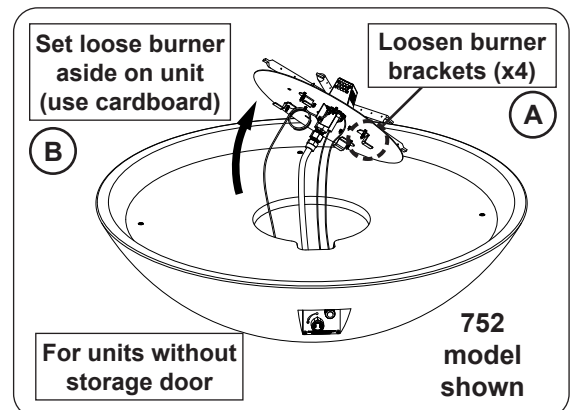

Fig. 29-3 Gain access to interior of unit (if needed)
For models without a storage door, use a $\frac{5}{16}$ " nut driver to loosen the 4 screws found on the burner assembly (see Fig. 29-3, A).
3. Carefully lift out the burner just enough to set it off to the side (see Fig. 29-3, B).